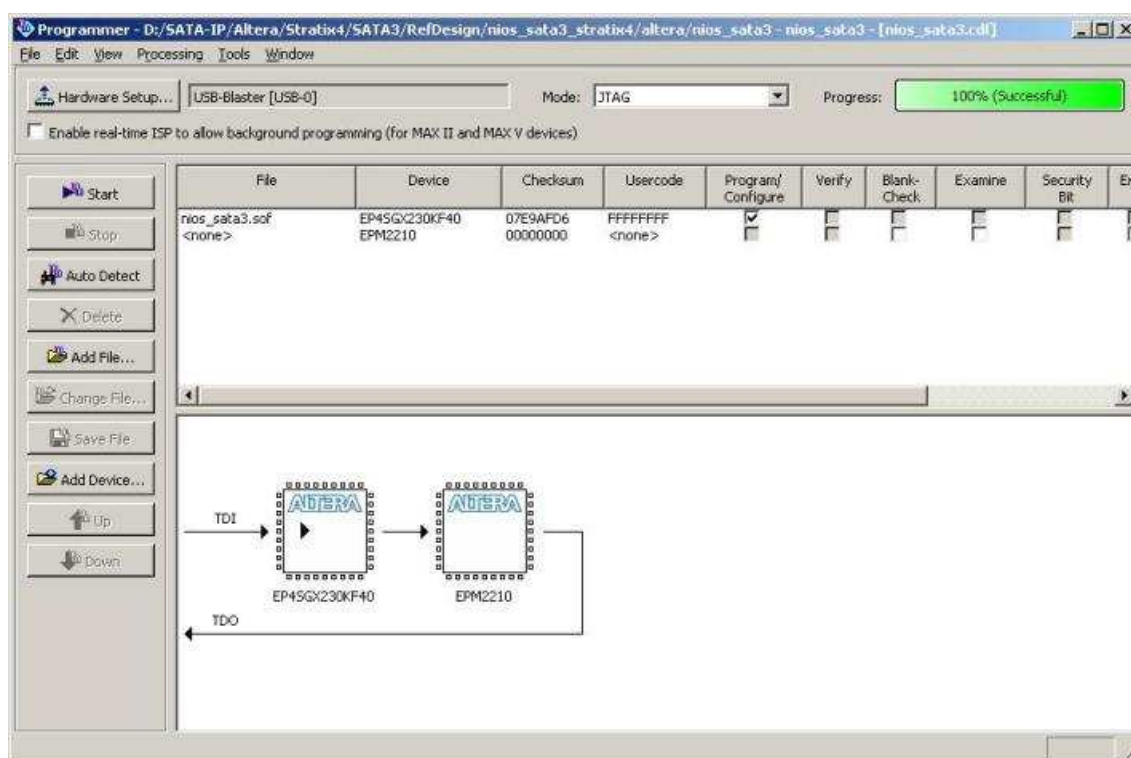

Figure 3 Programmer Environment
- Open Quartus Programmer and download "nios\_sata3.sof" to Stratix IV GX board, as shown in Figure 3.